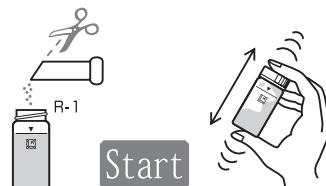

Fig.5
7. Add R-1 reagent into the vial and press <Start>. Put the cap tightly and stir the vial 5 - 6 times. (Fig.5)